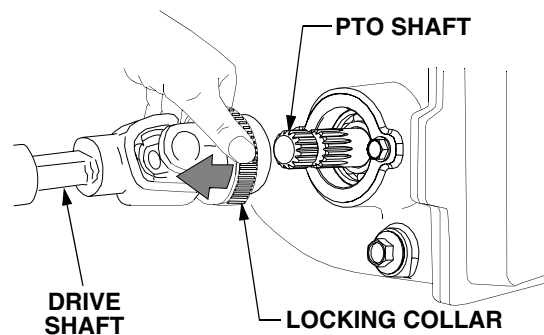

Figure 57
- Compress the locking collar and disconnect the deck drive shaft from the tractor PTO shaft (See Figure 57). Pivot the drive shaft to the side as far as possible.
- Compress the locking collar of the drive shaft and slide the drive shaft fully onto the PTO shaft protruding from the front of the transmission housing. Release the collar and check to ensure the drive shaft is locked onto the PTO shaft. Refer to Figure 57.